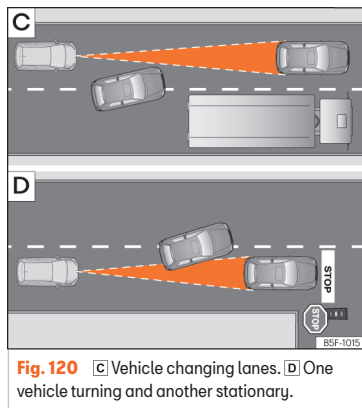

Fig. 120 [C] Vehicle changing lanes. [D] One vehicle turning and another stationary.
- Vehicles that move into your lane, a short distance from your vehicle >>> **Fig. 120** [C].
The ACC does not react to stationary vehicles. If, for example, a vehicle detected by the ACC turns or moves over and there is a stationary vehicle in front of it, the ACC will not react to the second vehicle >>> **Fig. 120** .